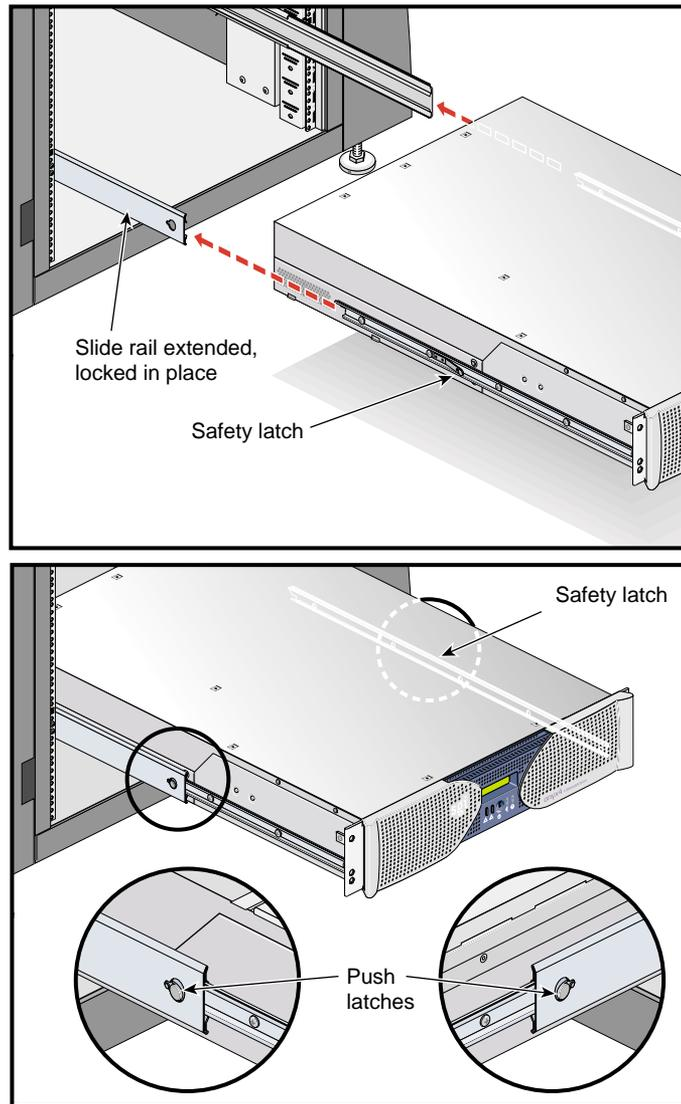

Figure C-8 Pressing the Safety Latches
4. Press the safety latches on both sides of the brick to fully seat the chassis rails into the slide rails (see Figure C-8).